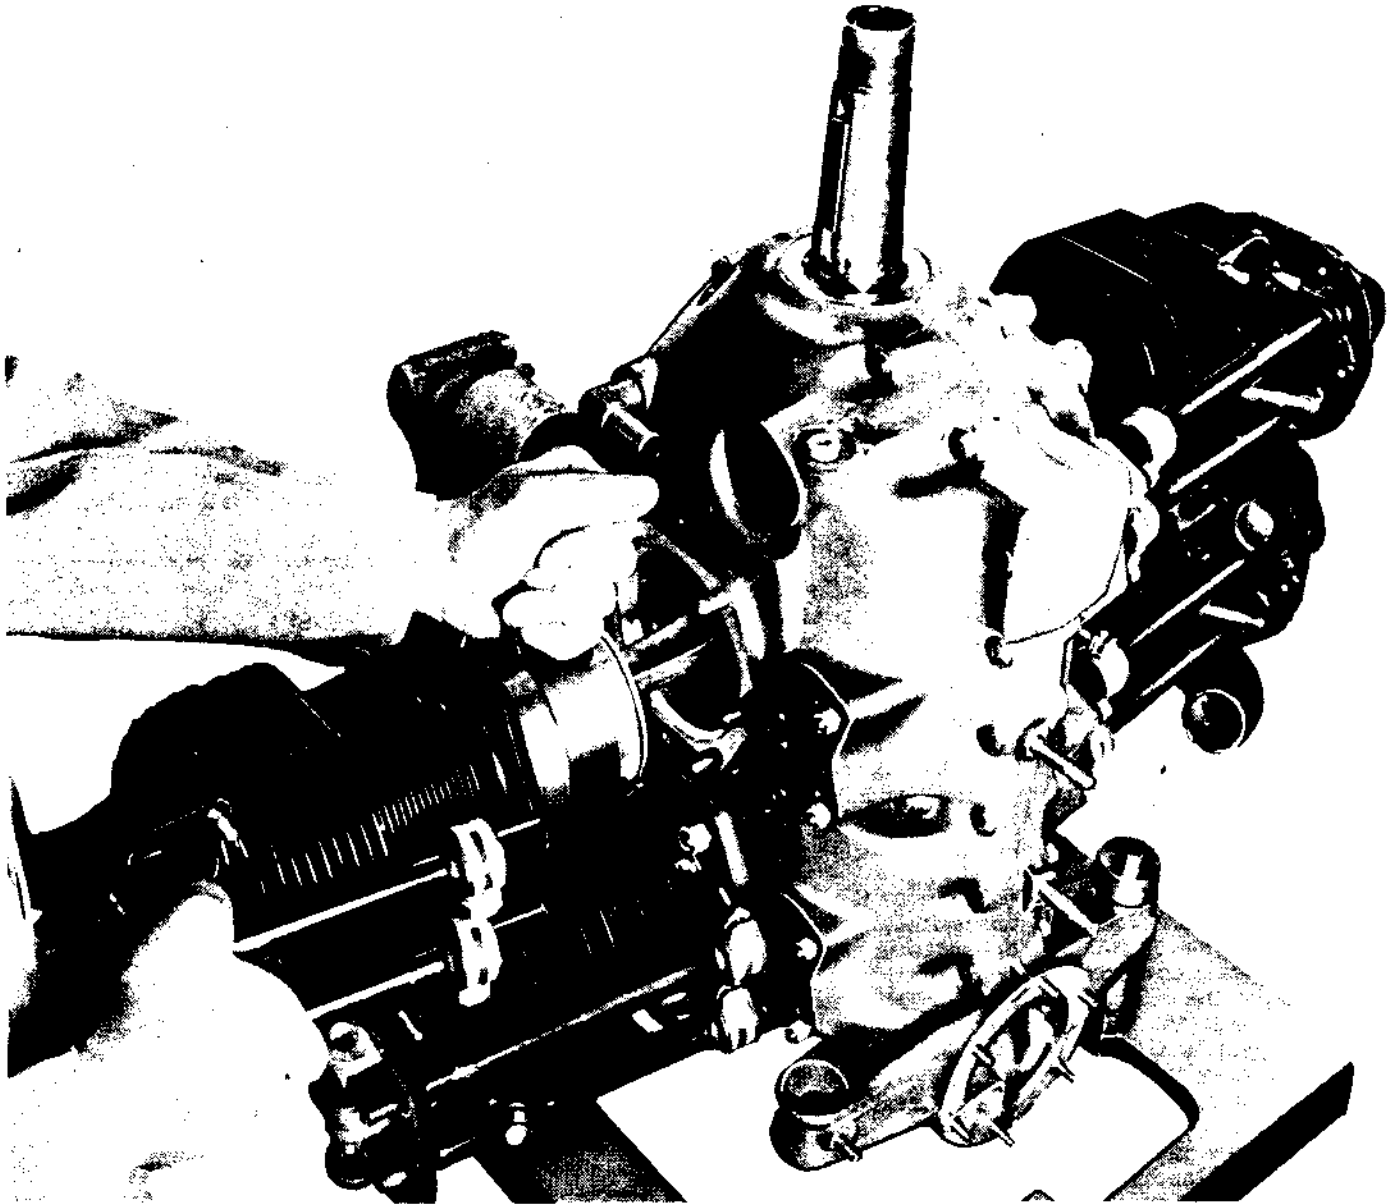

Figure 24. Installing Cylinder on Crankcase.
(2) Oil piston pin bushing on connecting rods. Install piston pin plugs into piston pin. Oil piston thoroughly and work oil into piston ring grooves. Oil piston pin and install piston (with rings assembled) to the connecting rod. Install piston with the numbers toward the front of the engine. The connecting rod must be fully extended through the port.
(3) Stagger gaps in piston rings on the piston so that they are evenly distributed around the piston to prevent blow-by. Assemble steel clamping band around the piston, compressing the piston rings and also retaining the piston pin and plugs in the piston.
(4) Coat inside cylinder barrel with a thin coat of engine oil.
(5) With one hand compressing the steel clamping band around the rings, insert the cylinder barrel over the top of the piston. (Fig. 24.)